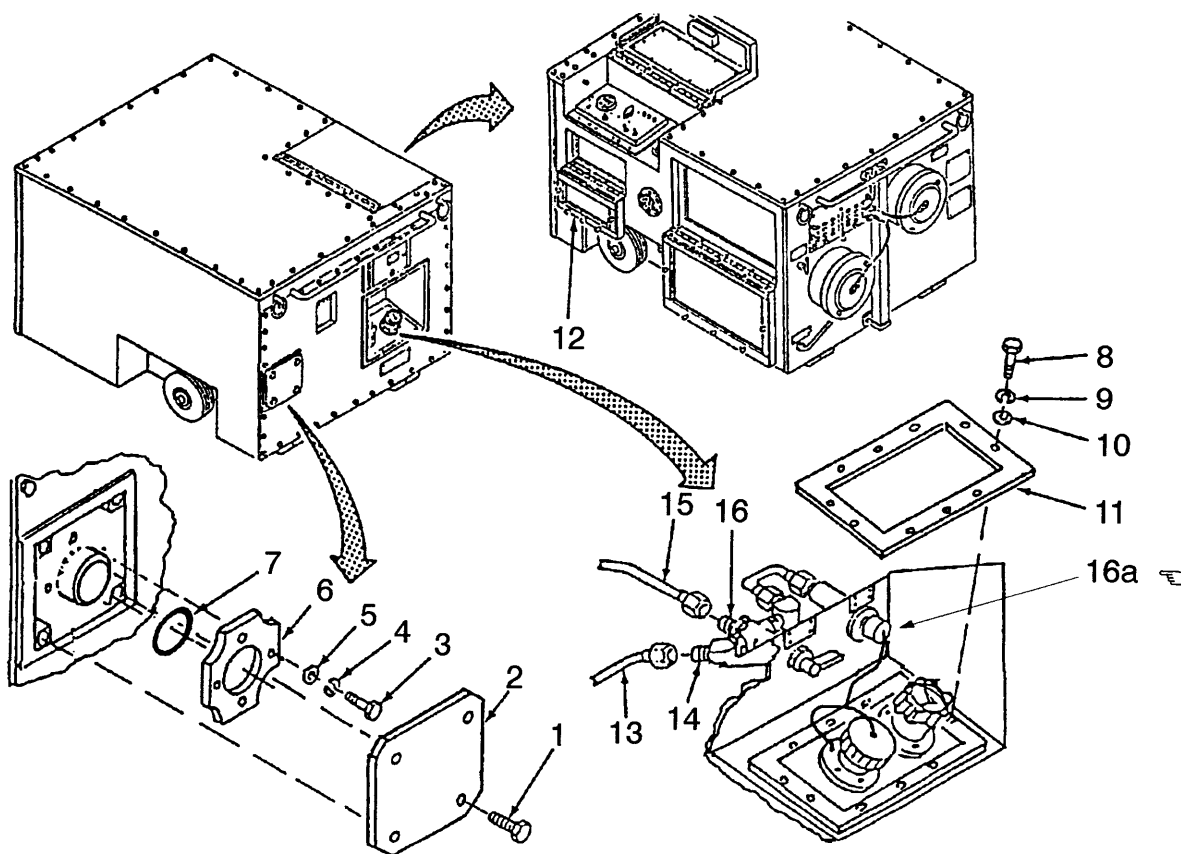

Figure 4-17. Rear Panel Assembly Removal (Sheet 1 of 2)
a. Removal -continued (Refer to Figure 4-17)
- (6) Remove sealant (16) from sight tube pipe (17).
- (7) Remove thirty-three screws (18), thirty-three lockwashers (19), and thirty-three flat washers (20). Discard lockwashers.
- (8) Remove rear panel (21) from frame (22) by gently pulling the panel over the insulator (23).
- (9) Loosen and remove ring (24).